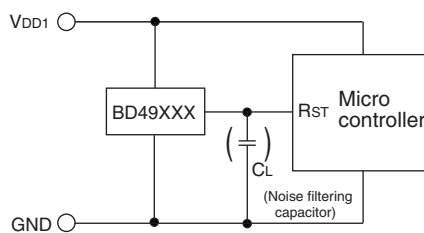

Fig. 11 CMOS output type
- When the power supply of microcontroller and that of reset is same (V_{DD1}). A product with CMOS output (BD49XXG/FVE series) can be used as shown in Fig. 11. Or if R_L is provided with open drain output (BD48XXG/FVE series) on the V_{DD1} side, it can be used.